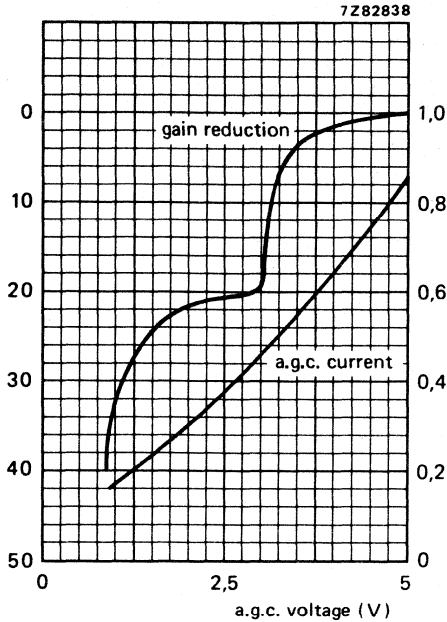

Fig. 4.
**A.G.C. voltage (Fig. 4), at nominal gain**+5,0  $\pm$  0,2 V**A.G.C. voltage, at 30 dB gain reduction**
**A.G.C. current (Fig. 4)**